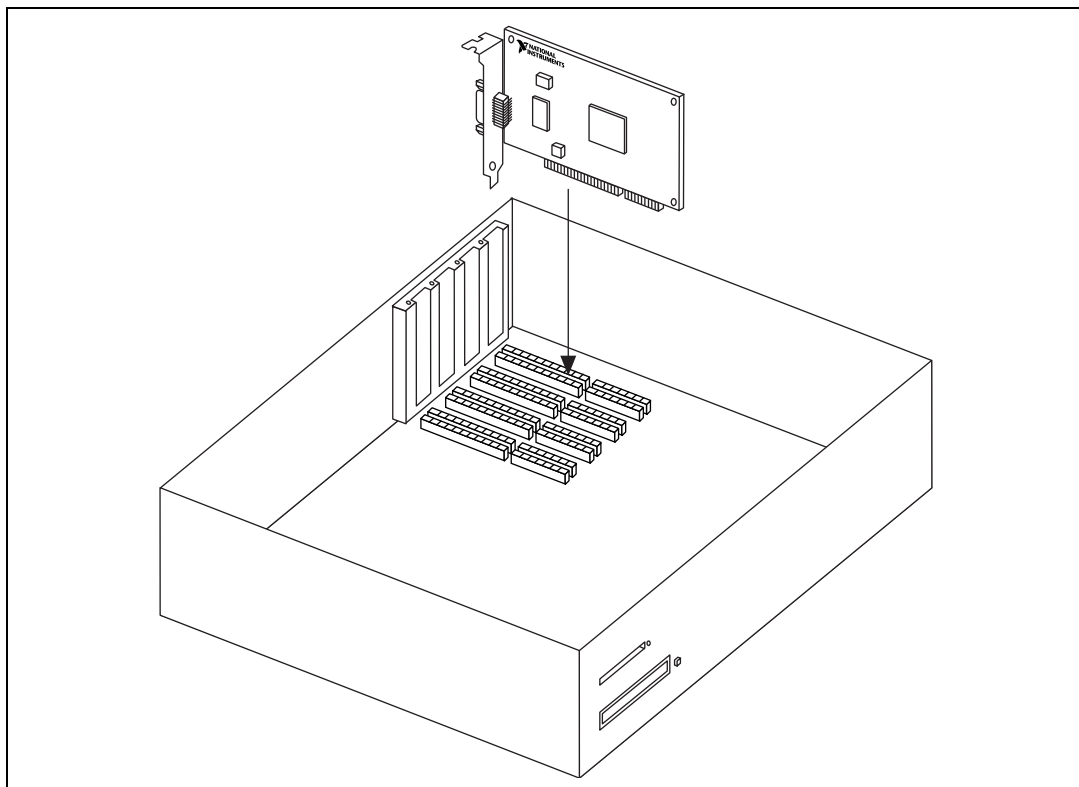

Figure 2-1. Installing the PCI-GPIB
5. Insert the PCI-GPIB into the slot with the GPIB connector sticking out of the opening on the back panel, as shown in Figure 2-1. It might be a tight fit, but do not force the board into place.